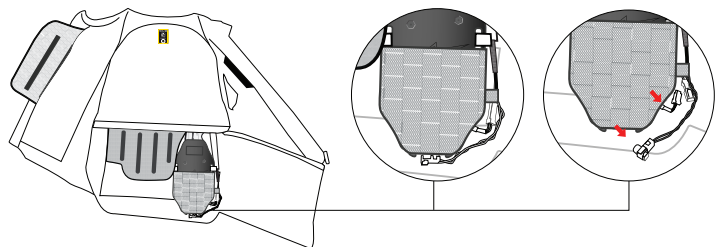

Figure 12
2. Access the Inflater Housing (4) and disconnect the cable connected to the battery and the squib connector from the inflator (Figure 12).